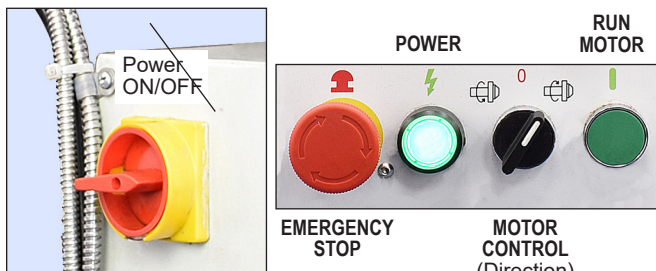

Figure 1-5 Power switch and motor controls
10. Be sure the Emergency Stop button, Figure 1-5, has not been pushed in (it should pop out when twisted clockwise). FAQs, page 2.
12. Switch on the power, Figure 1-5, left. The tachometer (speed) display should light, also the POWER light to the right of the emergency stop button.